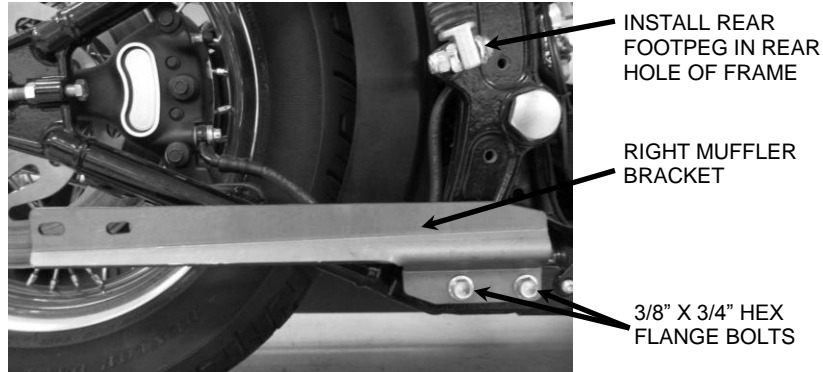

FIGURE 2
5. Remove the right side passenger foot peg from the clevis mount that is attached to the exhaust mount bracket. Remove the clevis mount from the exhaust mount bracket and then the stock exhaust mount bracket from the frame. Install the right side passenger foot peg using the 3/8" x 2-1/2" bolt and the supplied spacer into the rear most hole in the frame. See **FIGURE 2**. Tighten to factory specifications.
6. Remove the plastic hole plugs from the two lower holes in the frame and install the supplied left and right exhaust mount brackets using the supplied 3/8" x 3/4" hex flange bolts. Lift up on the rear of the exhaust mount bracket slightly while tightening the bolts. Tighten the bolts to factory specifications. See **FIGURE 2**.